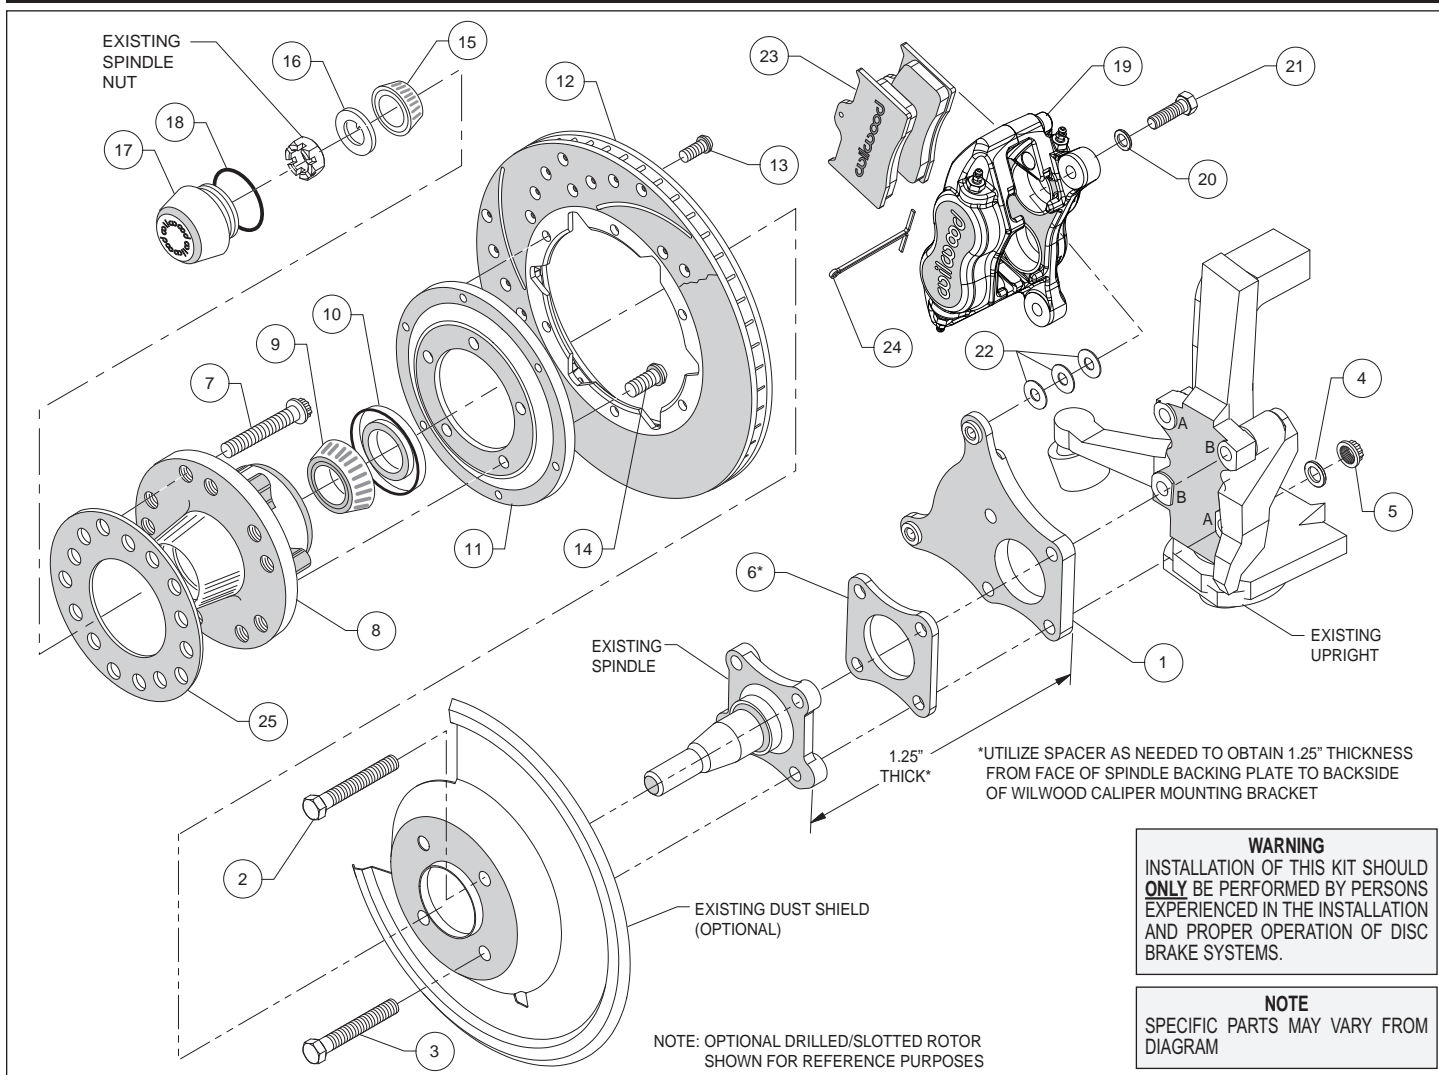
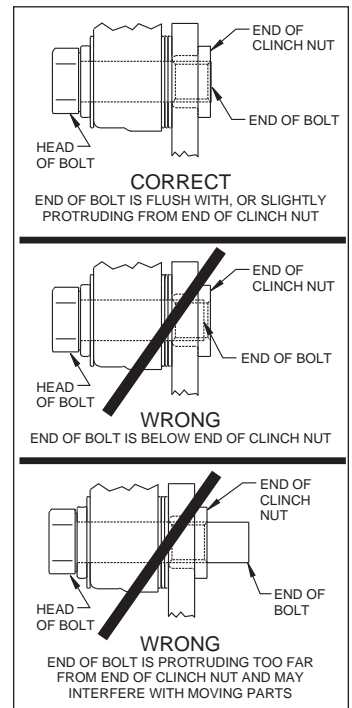

Figure 1. Typical Installation Configuration
Figure 3. Clinch Nut Engagement Diagram
**Assembly Instructions** (numbers in parenthesis refer to the parts list, on the preceding page and Figure 1): **CAUTION:** *All mounting bolts must fully engage clinch nuts.* Be sure to check that all bolts are either flush or protruding through flanged side of clinch nut after shimming, Figure 3.
- Align caliper mounting bracket (1) with the corresponding holes, between the upright and the spindle. Attach using bolts (2 and 3), washers (4), and locknuts (5) as shown in Figure 1 and Photo 1. Bolt (2) goes into holes on the upright designed with a "B" and bolt (3) goes into the "A" marked holes, Figure 1. Measure the thickness of the spindle and mounting bracket, Figure 1. If approximately 1.00", place spacer (6) between the spindle and mounting bracket to achieve the correct thickness. Temporarily tighten the mounting bolts. Ensure that the flanged heads of the clinch nuts in the bracket are facing outboard, Photo 1. **NOTE:** *The bracket must fit squarely against the mounting bosses on the upright.* Inspect for interference from casting irregularities, machining ridges, burrs, etc. Remove bolts one at a time, apply red *Loctite*® 271 to threads and torque to 47 ft-lbs.
- Install wheel studs (7) into the hub (8), Photo 2. Torque to 77 ft-lb. **NOTE:** *There are two five lug patterns in the hub (5 x 4.50 and 5 x 4.75).* Ensure the correct hub stud pattern is being used to fit the wheel application.
- Pack the large inner bearing cone (9) with high temperature disc brake bearing grease (available from your local auto parts store) and install into the backside of the hub (8), Photo 3.
- Install the grease seal (10) by pressing into the backside of the hub (8), flush with the end of the hub, Photo 3.
- Orient the rotor (12) and the rotor adapter (11) as shown in Figure 1 and Photo 4. Attach the rotor to the adapter using bolts (13). Using an alternating sequence, apply red *Loctite*® 271 to the threads, and torque to 25 ft-lb.
- Mount the adapter/rotor assembly (11/12) to the hub (8) using bolts (14), as shown in Figure 1 and Photo 5. Using an alternating sequence, apply red *Loctite*® 271 to the threads, and torque to 45 ft-lb.
- Screw dust cap (17) into hub (8), Photo 7. Friction created by the o-ring (18) on the dust cap keeps it from unscrewing.
**NOTE:** The O.D. of the existing OEM spindle washer may be larger than the I.D. of the dust cap not allowing it to seat against the hub face. Therefore, use the spindle washer (16) supplied with the kit instead of the OEM washer.
- NOTE:** Please reference the caution statement at the beginning of the assembly instructions. Mount the caliper (19) onto the caliper mounting bracket (1) using bolts (21) and washers (20), as shown in Figure 1. Initially place three .035" thick shims (22) on each bolt between the caliper and the bracket, Photo 8. Temporarily tighten the mounting bolts and view the rotor (12) through the top opening of the caliper. The rotor should be centered in the caliper, Photo 9. If not, adjust by adding or subtracting shims between the bracket and the caliper. Always use the same amount of shims on each of the two mounting bolts. **NOTE:** The end of each bolt must be flush with or slightly protruding from the head of the clinch nut, as shown in Figure 3. If necessary place spare shims between washer (20) and caliper mounting ear to achieve the proper clinch nut engagement. Once the caliper alignment and clinch nut engagement are correct, remove the bolts one at a time, apply red *Loctite*® 271 to bolt threads, and torque to 40 ft-lb.